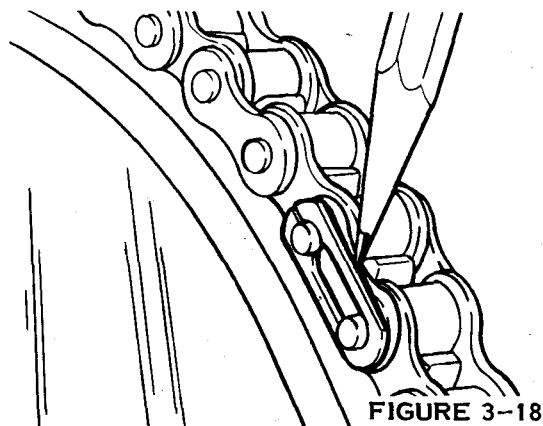

FIGURE 3-18
Remove the spark plug lead. Stand mower on end, resting on engine. Secure mower so it will not tip during repairs. Locate and remove the master link on drive chain. See Figure 3-18. Remove chain, see Figure 3-19. Remove the rear wheels and bearing assemblies (2). Slide the differential out of the chassis. The sprocket can now be removed or the differential disassembled for further repair or replacement.